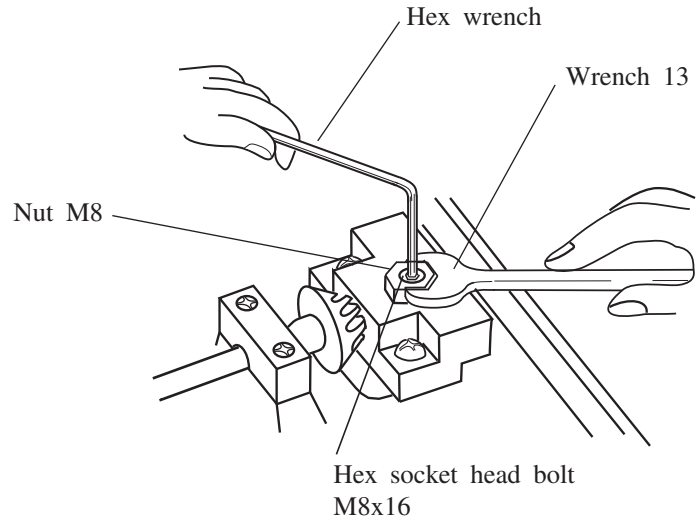

Fig.5B
- (2) Tighten hex socket head bolt M8x16 with hex wrench. (See Fig.5B.)
- (3) Loosen the above hex socket head bolt again, and adjust it to the position where the wobble of steel ball does not arise. (See Fig.5B.)
- (4) Fix the hex socket head bolt M8x16 with hex nut M8.